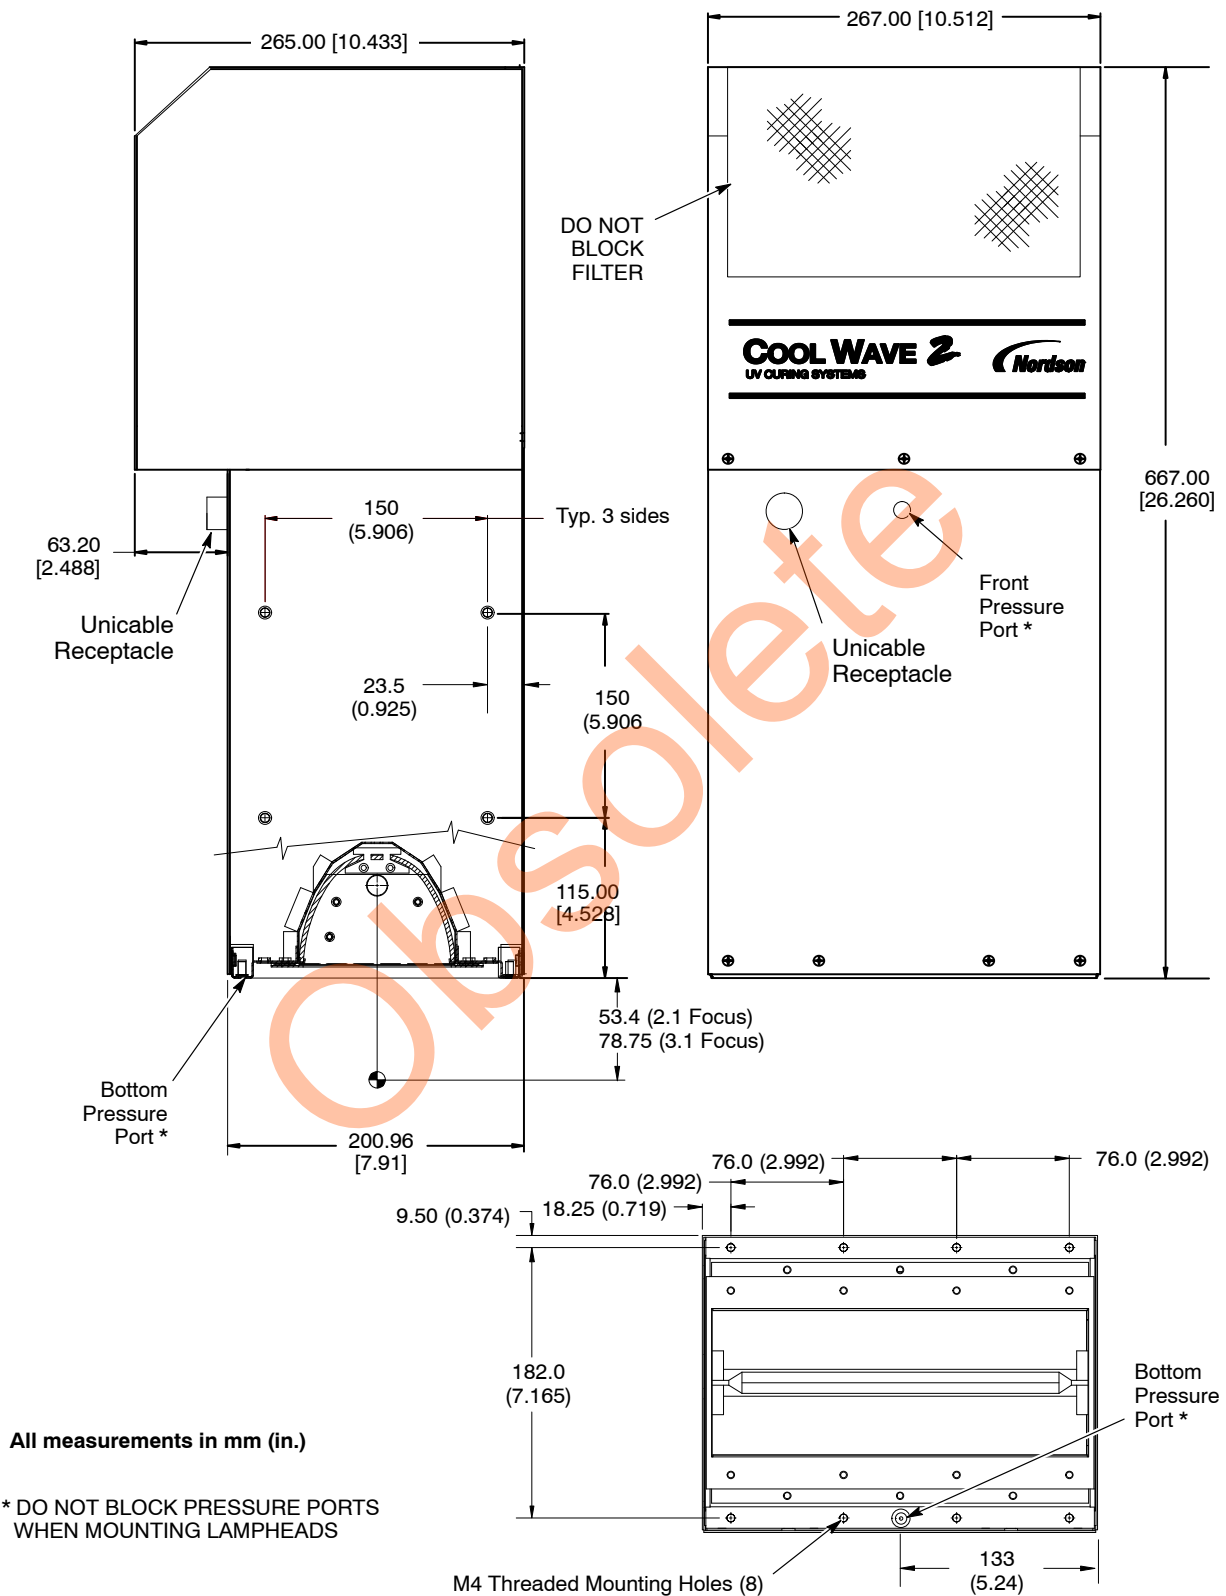
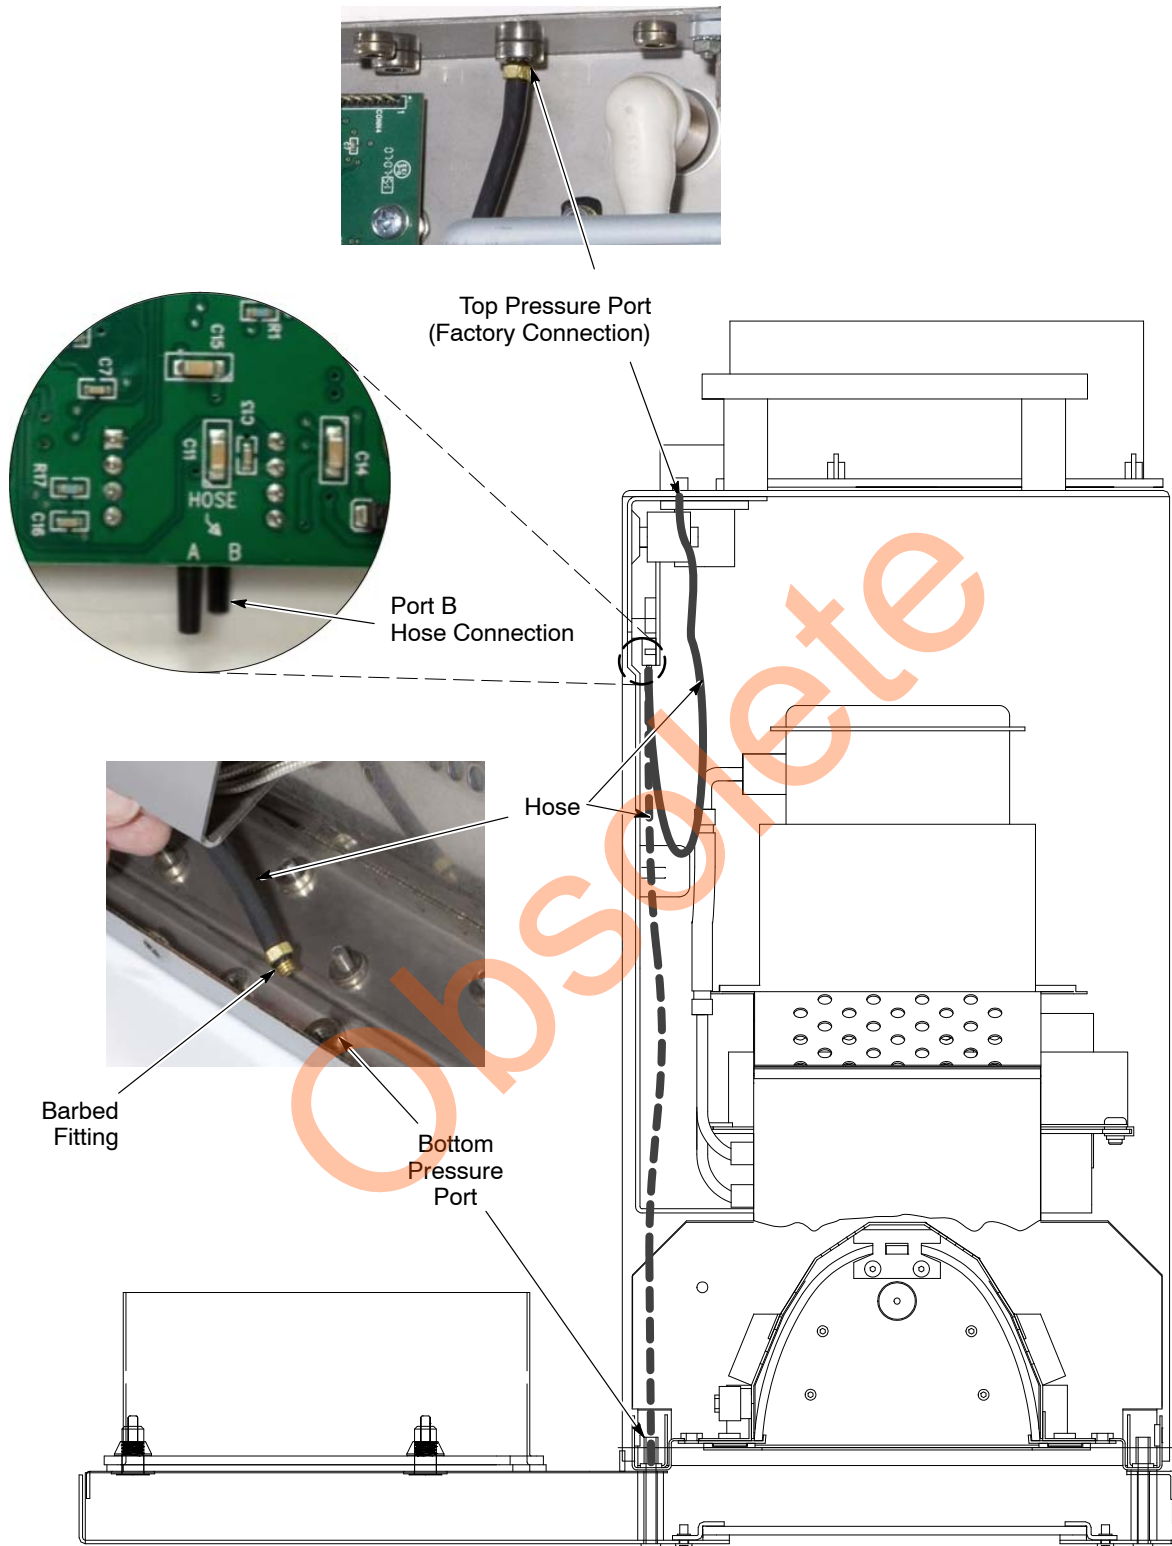

Figure 3-10 Lamphead Dimensions – Internal Blower
Figure 3-13 Pressure Port Connections – External Blower Version
See Figures 3-13 and 3-14. The lamphead pressure sensor on the light detector board is connected by a hose to atmosphere at the top/front or bottom pressure port. (See Figures 3-9 and Figure 3-10 for the location of the pressure ports on internal and external blower versions.) **The hose must be connected to Port B on the board, as shown.**
1. See Figures 3-13 and 3-14. Remove the lamphead cover.